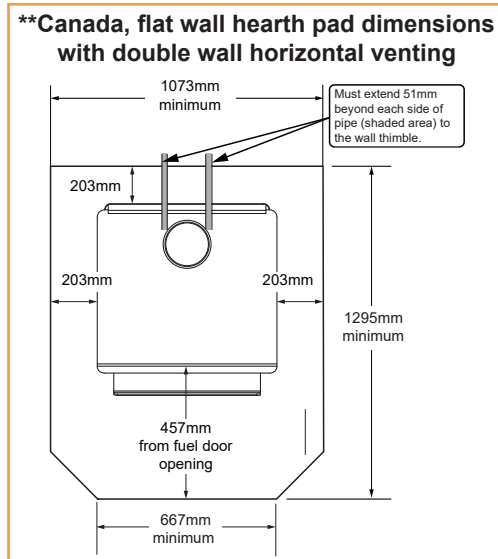

Figure 13.2 - **These dimensions will vary depending installation.
In Canada, similar floor protection must be provided 18 inches (457mm) in front and 8 inches (203mm) from the sides and rear of the appliance unless the hearth pad is placed against the wall (**see Figure 13.2**). Then the clearance may be reduced using double wall pipe and the Clearance to Combustibles.
***Exception:** Non-combustible floor protector must extend beneath the flue pipe when installed with horizontal venting and extend 2 inches (51mm) beyond each side (**see Figure 13.2**).